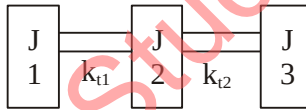

Figure 4.
- (b) Determine the natural frequencies of the system shown in Figure 4 by Holzer's method. Given $J_1 = J_2 = J_3 = 1 \text{ kg m}^2$, $k_{11} = k_{12} = 1 \text{ N-m/rad}$. 10